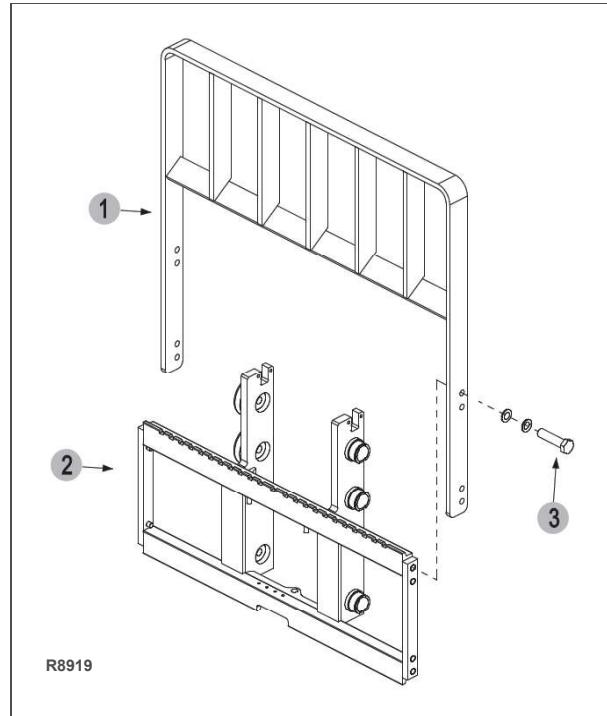

Figure 9-12 Built In Side Shifter
3. Remove the four bolts (3, Figure 9-12) and remove the load backrest (1) from the side shifter (2).
5. Remove the chain assembly and remove the built in side shifter (2, Figure 9-12) from the inner mast.